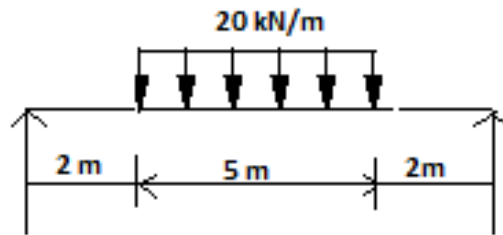

Fig:1
- 9 A simply supported beam of span 9 m carries a uniformly distributed load 20 (10) kN/m as shown in fig 1. Determine deflection of beam at midpoint of beam and also maximum deflection. Take flexural rigidity = $10 \times 10^4 \text{ kN m}^2$